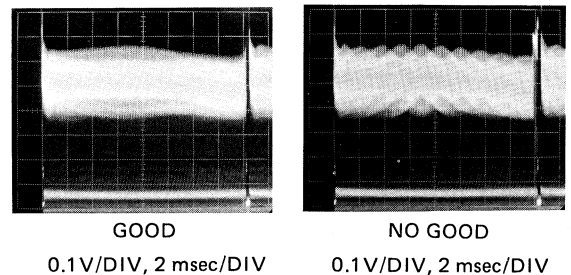

Fig. 4-2-19
- Adjust V. SIZE VR5 for minimum beat during the vertical period. (Fig. 4-2-19)